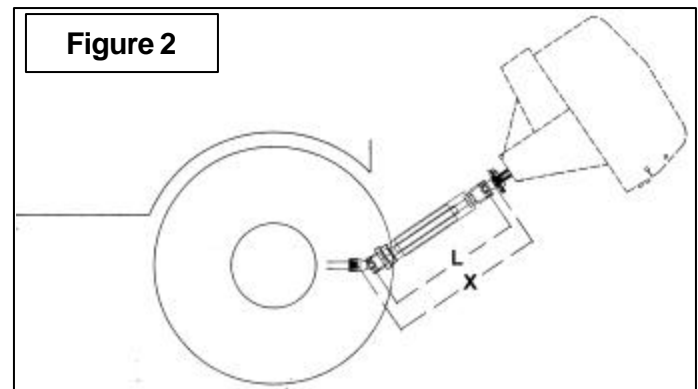

Figure 2
1. To determine the "L" length for your tractor model first find the "X" factor by measuring the horizontal distance between the end of the tractor's drive shaft and the end of the snowblower's driven shaft when the snowblower is in transport position as shown on Figure 2.